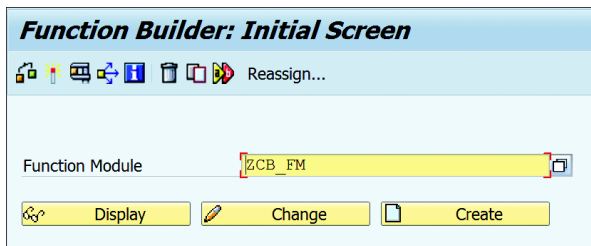

Figure 7.13 Creating Function Module
4. Once the function group is created, you can create the function module within this function group. To do so, enter the name of the `FUNCTION MODULE` on the initial screen of Function Builder and click **CREATE** (Figure 7.13).